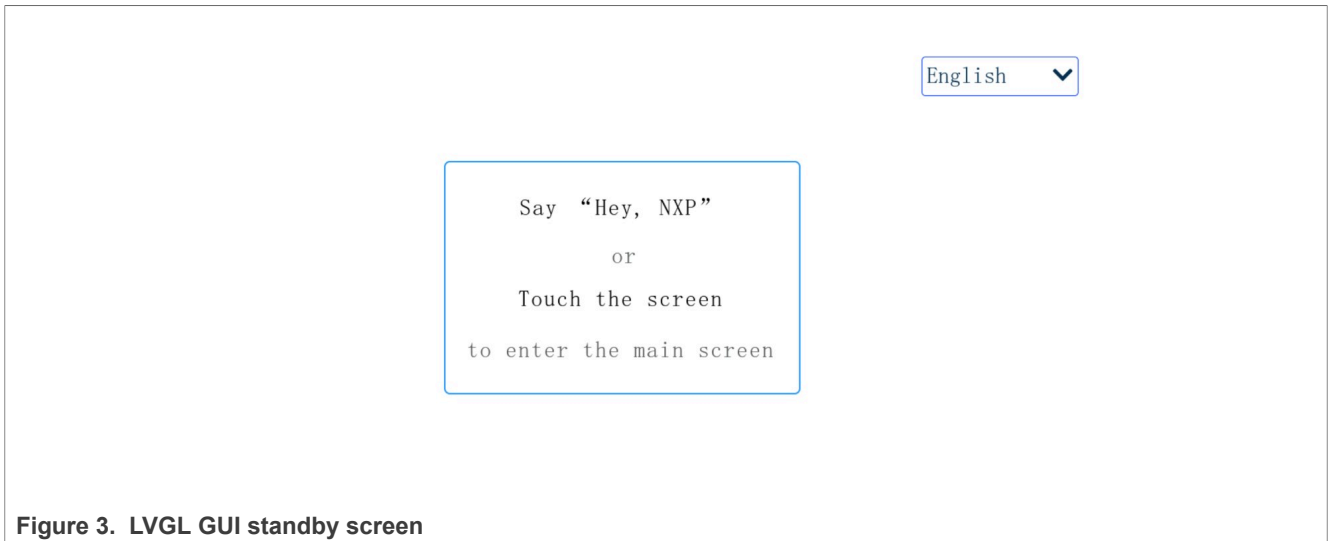

Figure 3. LVGL GUI standby screen
- Add a standby screen presented after startup. A dropdown list widget is presented for English and Chinese languages selection. The texts on the screen are presented with the selected language and it is required to speak the wake words in the selected language for voice recognition. After recognizing the wake words or touching the screen, it enters the home screen. See Figure 3.